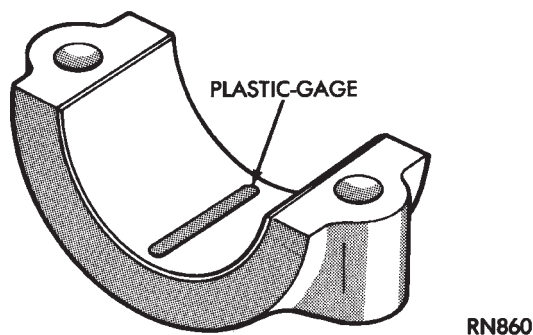
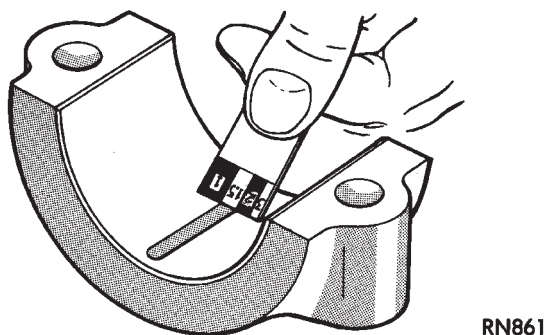

Fig. 2 Plastigage Placed in Lower Shell
Fig. 3 Clearance Measurement
(3) Place a piece of Plastigage across the entire width of the bearing shell in the cap approximately 6.35 mm (1/4 inch) off center and away from the oil holes (Fig. 2). (In addition, suspect areas can be checked by placing the Plastigage in the suspect area). Torque the bearing cap bolts of the bearing being checked to the proper specifications.
(4) Remove the bearing cap and compare the width of the flattened Plastigage (Fig. 3) with the metric scale provided on the package. Locate the band closest to the same width. This band shows the amount of clearance in thousandths of a millimeter. Differences in readings between the ends indicate the amount of taper present. Record all readings taken. Refer to Engine Specifications. **Plastic-Gage generally is accompanied by two scales. One scale is in inches, the other is a metric scale.**
(5) Plastigage is available in a variety of clearance ranges. The 0.025-0.076mm (.001-.003 inch) is usually the most appropriate for checking engine bearing proper specifications.
(1) Rotate the crankshaft until the connecting rod to be checked is at the bottom of its stroke.
(2) Remove oil film from surface to be checked. Plastigage is soluble in oil.
(3) Place a piece of Plastigage across the entire width of the bearing shell in the bearing cap approximately 6.35 mm (1/4 inch.) off center and away from the oil hole (Fig. 2). In addition, suspect areas can be checked by placing plastigage in the suspect area.
(4) Before assembling the rod cap with Plastigage in place, the crankshaft must be rotated until the connecting being checked starts moving toward the top of the engine. Only then should the cap be assembled and torqued to specifications. **Do not rotate the crankshaft while assembling the cap or the Plastigage may be smeared, giving inaccurate results.**
(5) Remove the bearing cap and compare the width of the flattened Plastigage (Fig. 3) with the metric scale provided on the package. Locate the band closest to the same width. This band shows the amount of clearance in thousandths of a millimeter. Differences in readings between the ends indicate the amount of taper present. Record all readings taken. Refer to Engine Specifications. **Plastigage generally is accompanied by two scales. One scale is in inches, the other is a metric scale.**
(6) Plastigage is available in a variety of clearance ranges. The 0.025-0.076mm (.001-.003 inch) is usually the most appropriate for checking engine bearing proper specifications.